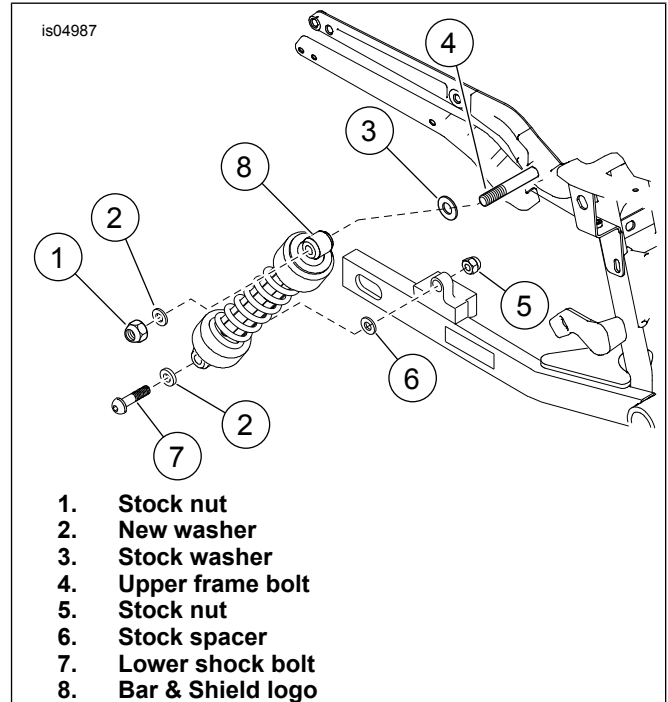

Figure 1. Rear Shock Absorber
- See Figure 1. With the Bar & Shield logo (8) positioned at the top and facing toward the rear of the motorcycle, install upper shock mount to frame as follows:
- Use larger stock washer (3) from stock shock bolt cover and slide onto bolt (4).
- Slide the upper shock onto the on upper frame bolt (4).
- Obtain new washer (2) from kit and slide onto upper frame bolt.
- Obtain stock nut (1) saved from removal and hand tighten onto upper frame bolt.
- See Figure 1. Obtain stock lower shock bolt (7) saved from removal. Slide new washer (2) onto bolt and insert through lower shock eyelet.
- Obtain stock spacer (6) and slide on lower shock bolt.
- Secure lower shock bolt with self locking nut (5) on inboard side.